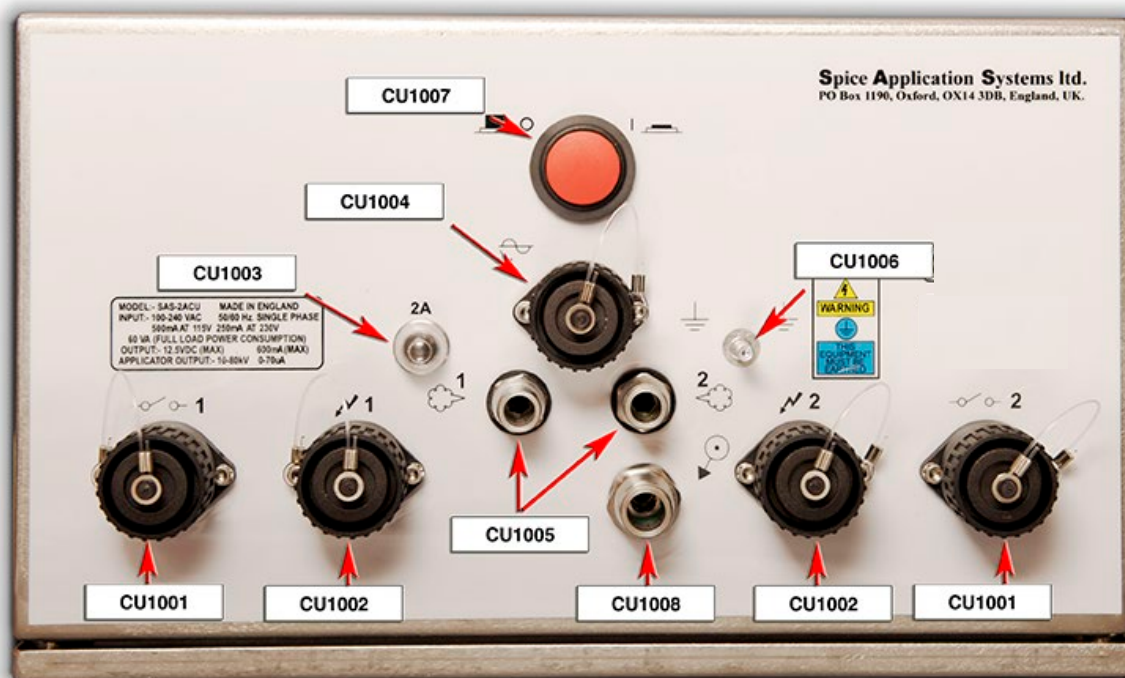

Fig 4
2. Turn the main power-supply ON/OFF switch to the ON position (see page 11 - Fig 4, CU1007).